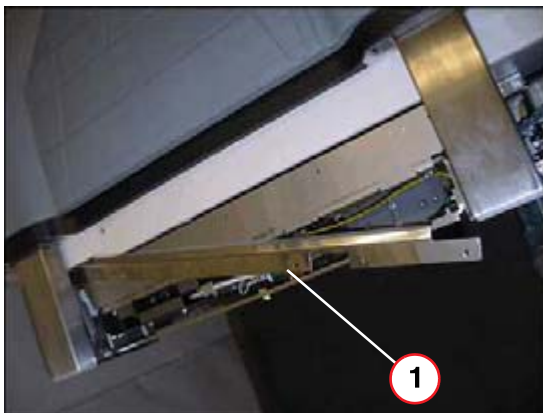
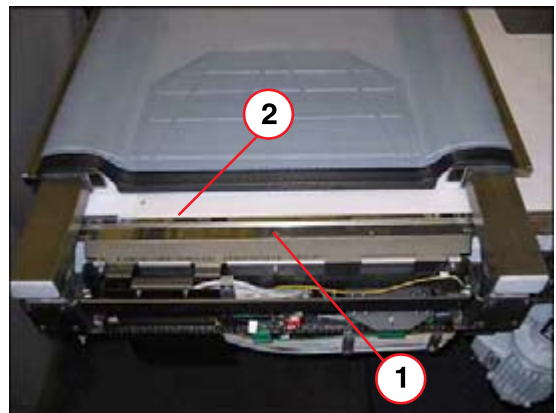

Fig. 101: Inserting the cover rail
Fig. 102: Inserting the cover rail
- Laterally insert the cover rail (1/Fig. 101 / p. 83) and (1/Fig. 102 / p. 83).
Observe the position of the silicone strip. (2/Fig. 102 / p. 83)